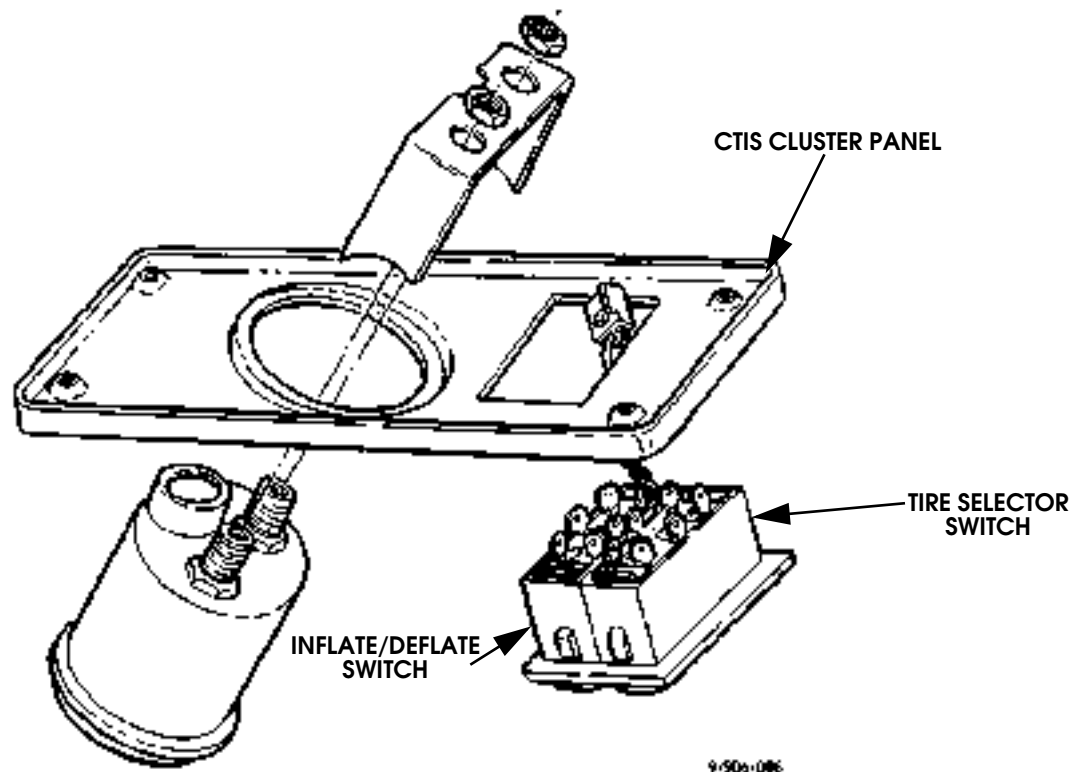

Figure 6-55: Inflate/Deflate Switch And Tire Selector Switch
1. Install inflate/deflate and tire selector switches in housing on CTIS instrument cluster (Figure 6-55).